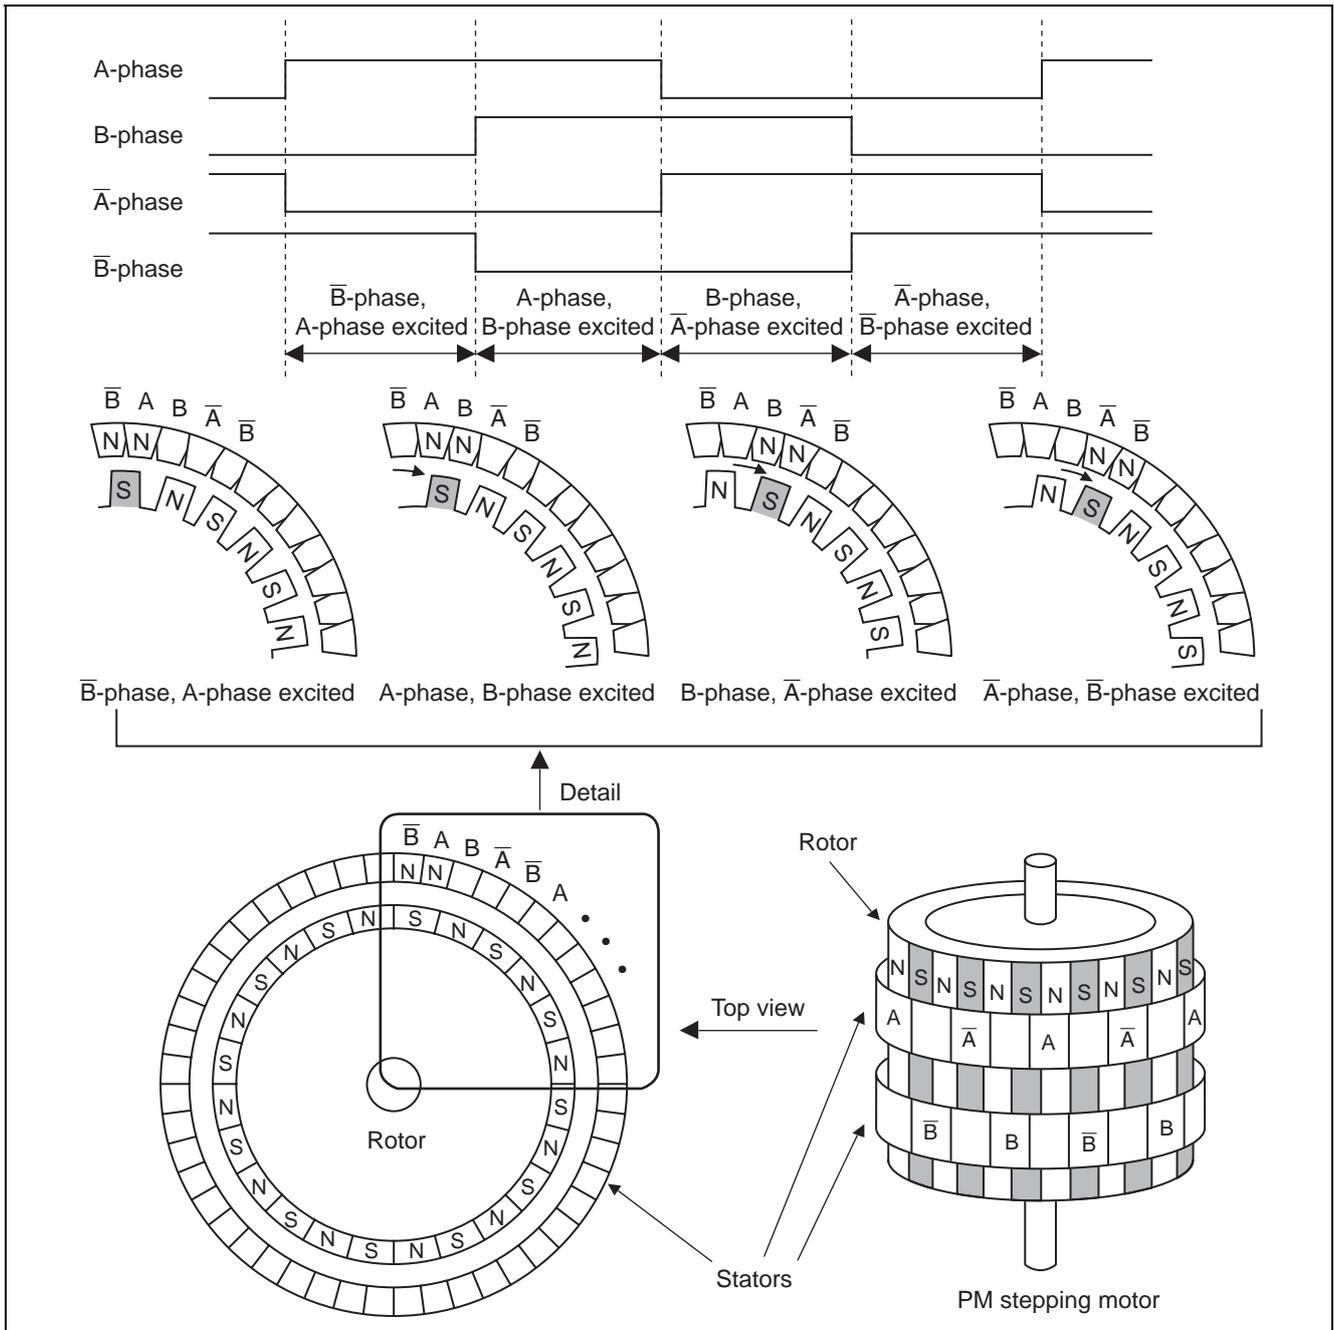

Figure 4.1 Stepping Motor Operation Example
Figure 4.1 shows an example of the operation of a two-phase stepping motor with a step angle of 7.5 [degrees/step] by using two-phase excitation.
- As shown in figure 4.1, when a pulse is high the corresponding phase is excited.